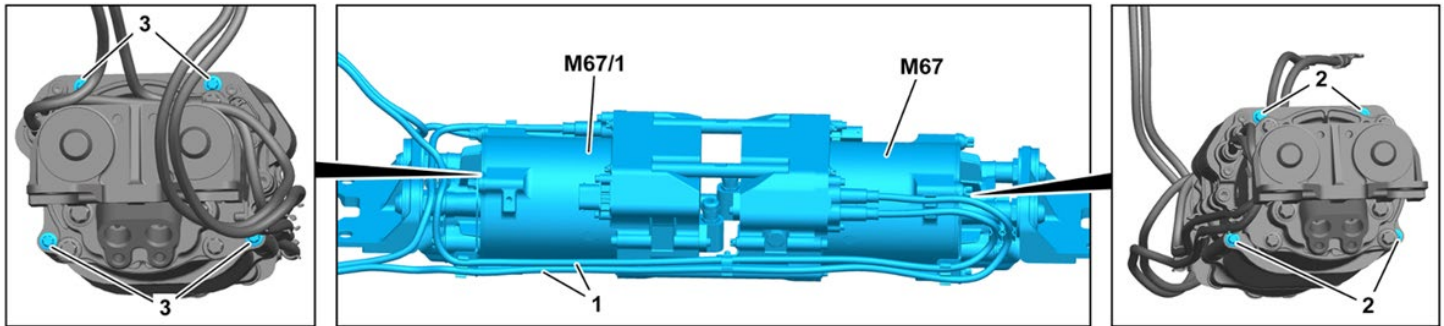

Figure 2
- i** Replace hydraulic pump of front electrohydraulic suspension, see **AR32.50-P-0045ME (figure 2)**.